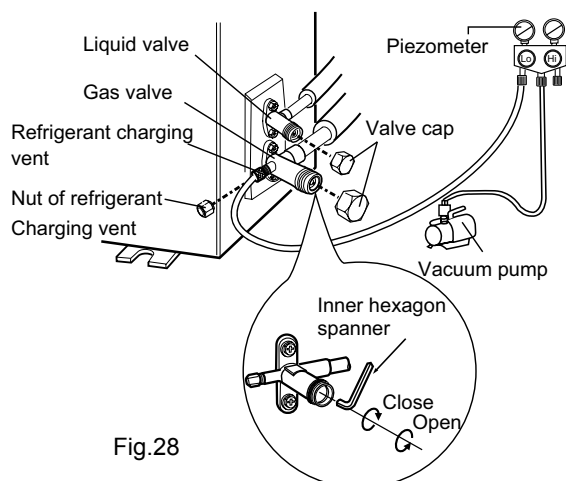

Fig.28
- (1) Remove the valve caps on the liquid valve and gas valve and the nut of refrigerant charging vent.
- (2) Connect the charging hose of piezometer to the refrigerant charging vent of gas valve and then connect the other charging hose to the vacuum pump.
- (3) Open the piezometer completely and operate for 10-15min to check if the pressure of piezometer remains in -0.1MPa.
- (4) Close the vacuum pump and maintain this status for 1-2min to check if the pressure of piezometer remains in -0.1MPa. If the pressure decreases, there may be leakage.
- (5) Remove the piezometer, open the valve core of liquid valve and gas valve completely with inner hexagon spanner.
- (6) Tighten the screw caps of valves and refrigerant charging vent. (As show in Fig.28)